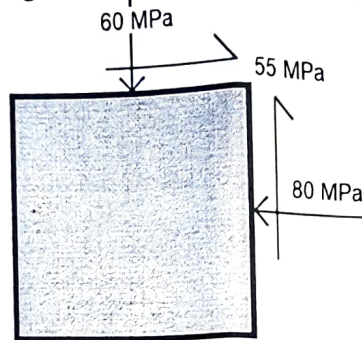

Fig. 3.
4. For the state of plane stress shown in Figure 3, determine (i) the principal planes, (ii) the principal stresses (iii) the maximum shearing stress and the corresponding normal stress.